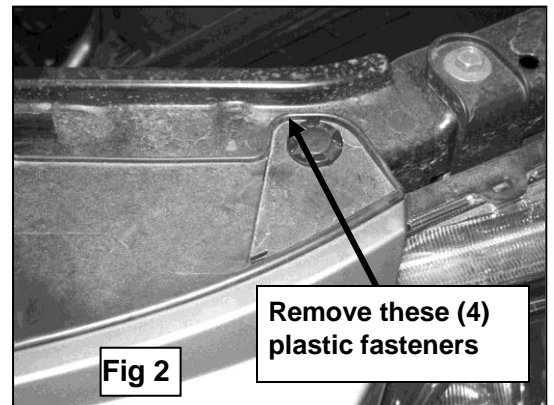
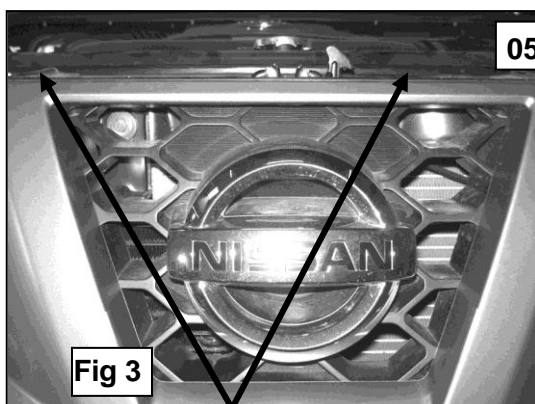

Fig 2
Fig 3
- Open the hood and remove the four plastic fasteners across the top of the grille shell, **(Figure 2)**. **NOTE:** Use a small flat blade screwdriver to gently pry up the center pin to release the fastener. This will allow you to move the grille shell to insert the Top Bracket through the grille opening, **(Figure 3 & 4)**.